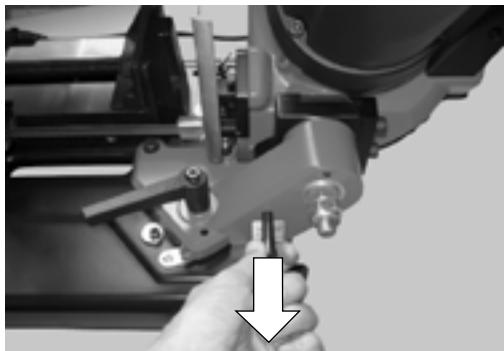

Fig. 3
To move the cutting head to the up position, simply remove the bolt (B), by pulling it out backwards (Fig. 3).